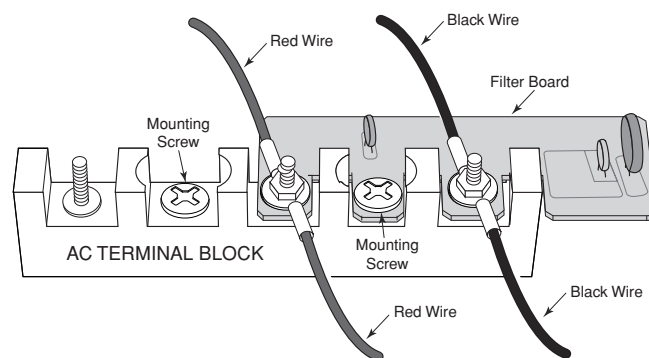

Figure 3-4
6. **To remove the AC Terminal Block (see Figure 3-4):**